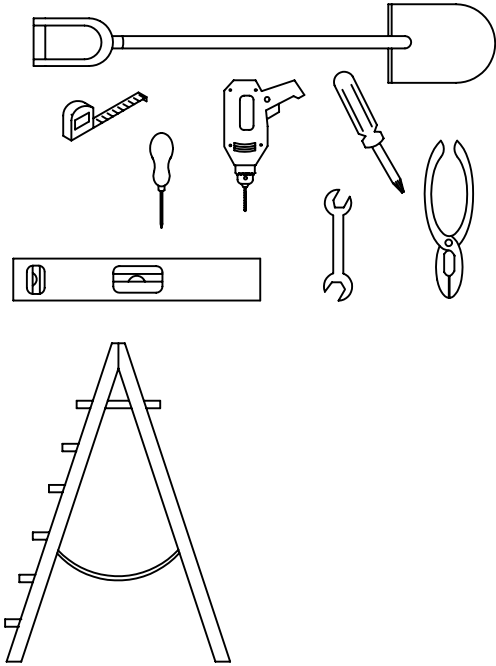

FIG. 1
1. WEATHER WARNING ! DO NOT ERECT YOUR BUILDING ON A WINDY DAY. ANY BUILDING LEFT PARTIALLY CONSTRUCTED MAY BE SERIOUSLY DAMAGED (FIG. 1).
2. ALL ASSEMBLY OPERATIONS MUST TAKE PLACE ON A COMPLETELY LEVEL SURFACE (FIG. 1)
1. TEMPÊTE DE VENT: NE JAMAIS MONTER VOTRE ABRÍ PAR GRAND VENT. NE PAS LAISSER UN ABRÍ PARTIELLEMENT MONTÉ, LES PIÈCES POUVANT ÊTRE ENDOMMAGÉES (FIG. 1).
2. TOUTES LES OPÉRATIONS DE MONTAGE DOIVENT ÊTRE RÉALISÉES SUR UNE SURFACE PLANE (fig 1).
1. AVISO DE TEMPESTADE! NÃO PROCEDA À MONTAGEM DO SEU ABRIGO NUM DIA VENTOSO. QUALQUER ABRIGO DEIXADO PARCIALMENTE MONTADO PODE FICAR SERIAMENTE DANIFICADO (FIG. 1).
2. TODAS AS OPERAÇÕES DE MONTAGEM DEVEM SER EFECTUADAS NUMA SUPERFÍCIE COMPLETAMENTE NIVELADA (FIG. 1).
1. PRESTE ATENCIÓN A LA METEOROLOGÍA. NO INTENTE LEVANTAR EL EDIFICIO EN UN DÍA DE VIENTO. CUALQUIER COMPONENTE QUE QUEDA A MEDIO MONTAR PUEDE SUFRIR DAÑOS IMPORTANTES. (FIG. 1).
2. TODAS LAS OPERACIONES DE MONTAJE DEBEN DE REALIZARSE SOBRE UNA SUPERFICIE TOTALMENTE PLANA Y AL MISMO NIVEL. (FIG. 1)